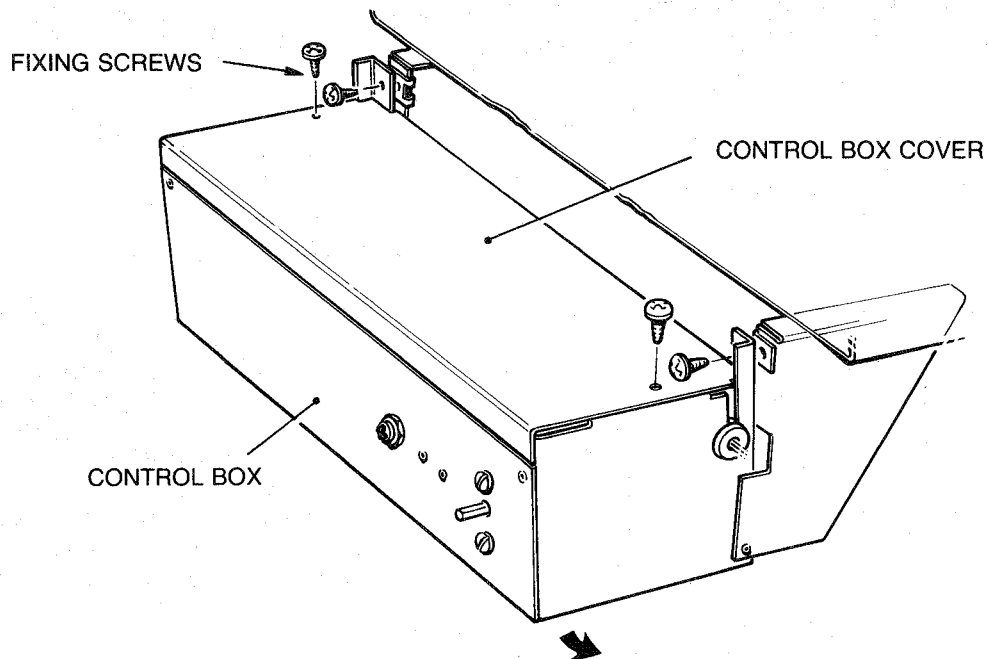

FIG. 12
1. Unscrew the two screws (Fig. 12) which hold the control box in its horizontal position and swing the control box down through 90°. Remove the control box cover by first unscrewing the two screws.
Note: To ease access to the pressure test point the control pod may be lowered from its horizontal position (Fig. 12).
- (a) Remove the two screws (Fig. 12) which hold the control box in its horizontal position and swing the control box down through 90°.